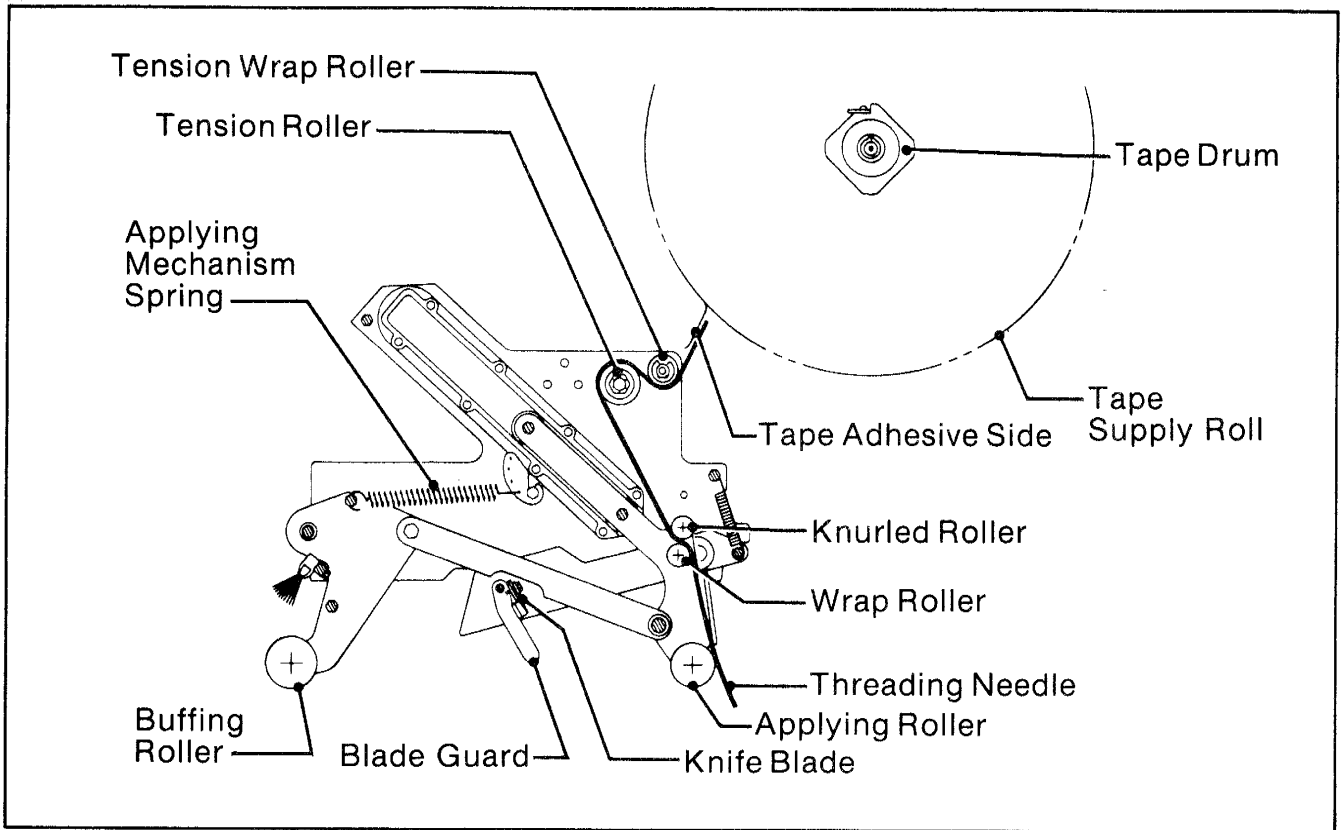

Figure 3 - Tape Threading Diagram - Top Taping Head - Left Side View
2. With the temporary threading needle already in position, as shown in Figure 3, follow the tape loading procedure from Figure 3C to complete the tape threading.